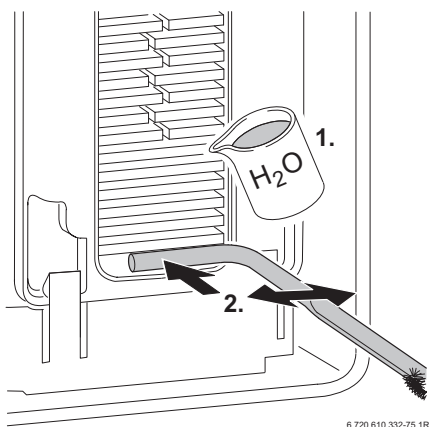

Fig. 53
- ▶ Flush the heat exchanger from the top. Refer to fig. 53.